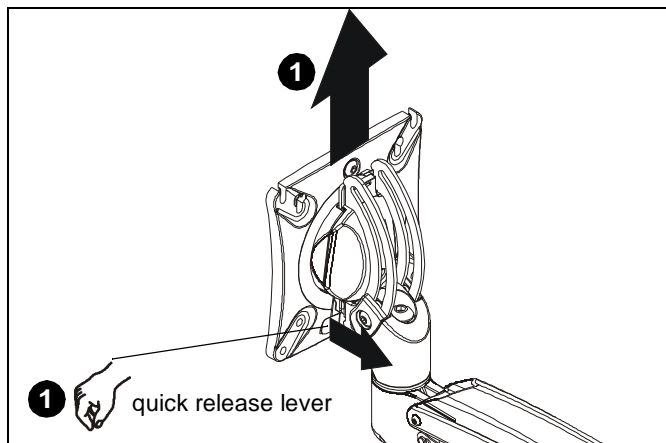

Figure 6
1. Remove quick release faceplate from mount by pulling quick release lever and sliding faceplate off mount. (See Figure 6)